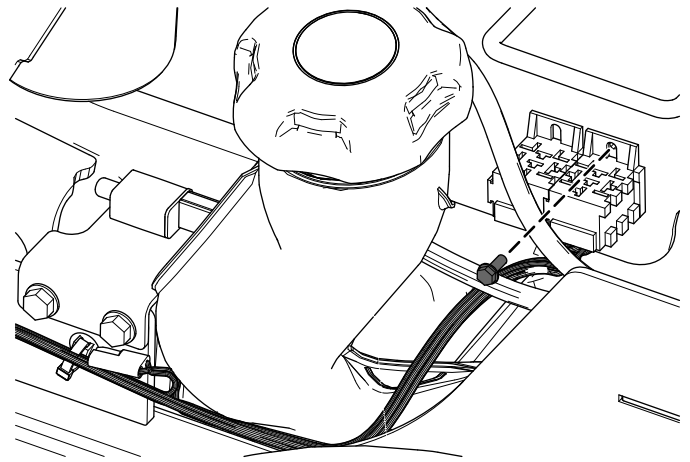

Figure 16
4. Secure the wire harness near the relays using the tapite screw (Figure 16).